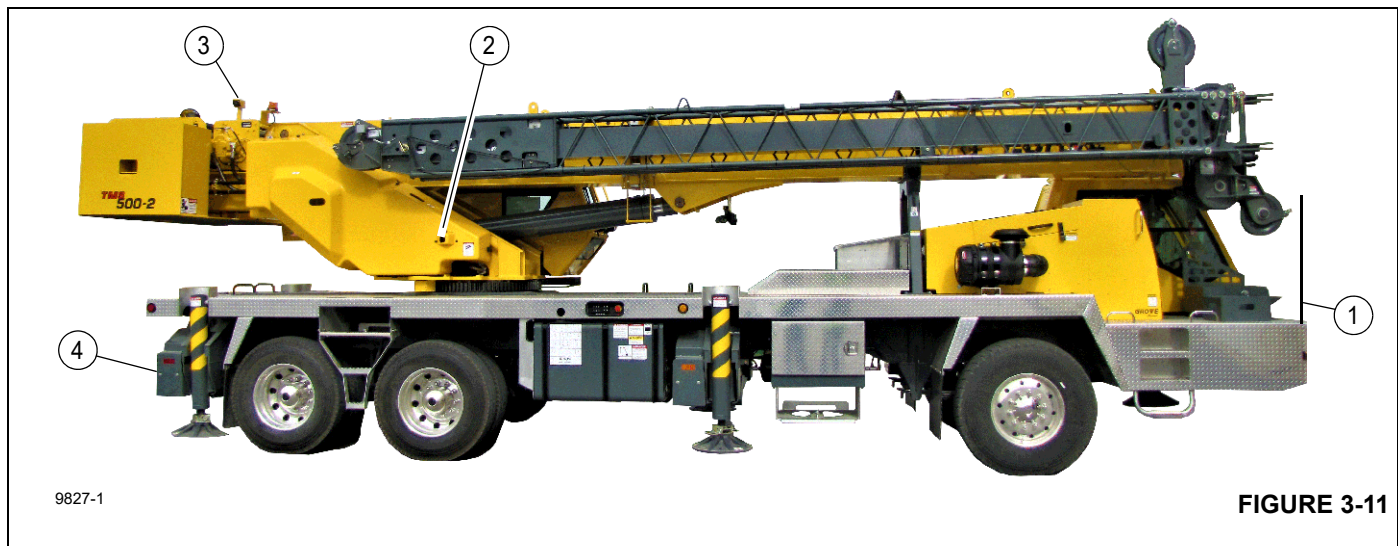

FIGURE 3-11
There is an optional group camera package which consists of four cameras as shown in (Figure 3-11). Further information on optional cameras can be found in the Operators Manual, Section 6, page 6-13.
The Carrier Cab camera display is located in the center top of the cab above the steering wheel. A camera is located in the center rear panel (4), (Figure 3-11) at the rear of the crane and one is on the right side mirror bracket (1),
(Figure 3-11). The power for the display/cameras is supplied by a 3A fuse, F16 in the carrier cab power panel as shown in (Figure 3-4) on the Carrier Fuse Identification Panel.
The Superstructure Cameras are located (one) in the center between the 2 hoists (3), (Figure 3-11) and one on the right side of the superstructure (2), (Figure 3-11) thru a hole in the plastic valve cover. They are both powered by a 5A fuse, F15 in the Superstructure Cab Power Panel as shown in (Figure 3-9) Cab Fuse and Relay Box 1. The camera views are projected in the Crane Control System (CCS) displays in the superstructure cab.